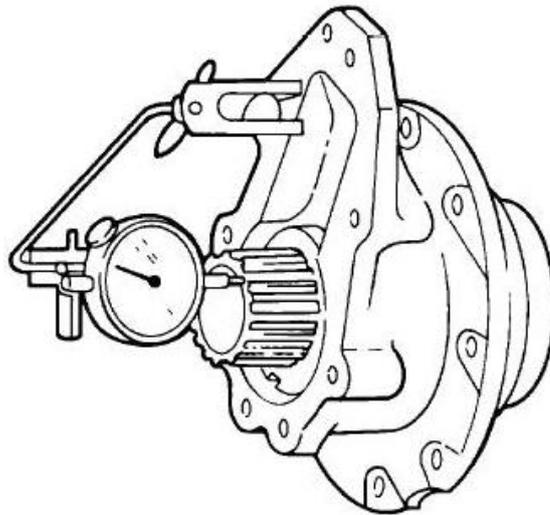

Figure 188 Checking the Quill-shaft End-float
- bb.** Mount a dial indicator on the adapter with the dial indicator plunger positioned at 90 degrees to, and resting against, the end of the quill shaft (Figure 188). Check the quill shaft end-float and if necessary, replace the selective thickness spacer to obtain a reading of 0.0063 to 0.0762 mm (0.00025 to 0.003 in).